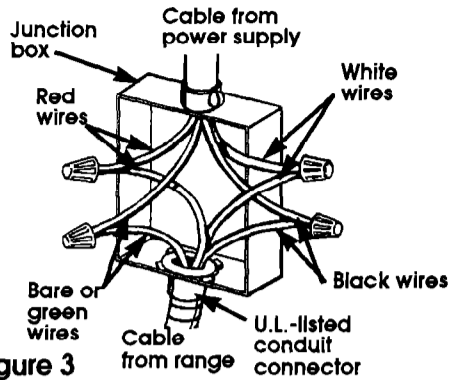

Figure 3
Four-wire power supply cord must be used in a mobile home installation. The appliance wiring will need to be revised. See Electrical requirements, Figure 3, Panel B.
4. Connect the two black wires; then the two red wires. See Figure 3.